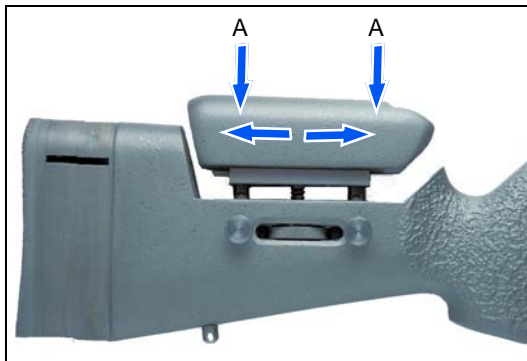

Fig. 13
1. Release screws **Fig. 13/A** (approx. four turns).
3. Tighten the screws **Fig. 13/A** well.